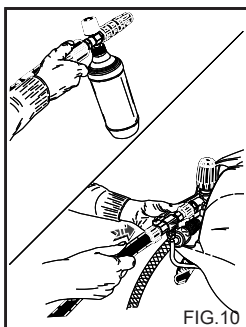

FIG.10
ATTACHING THE DETERGENT INTAKE KIT (fig. 10) (optional accessory)
2) Detach the extension from the handgrip and fit the double lance, lance with adjustable head or detergent kit. Operate the high pressure washer, activate the detergent suction control on the lance (figs. 10, 12) and spray the surface to be washed, working from the bottom upwards. Leave to work for a few minutes...